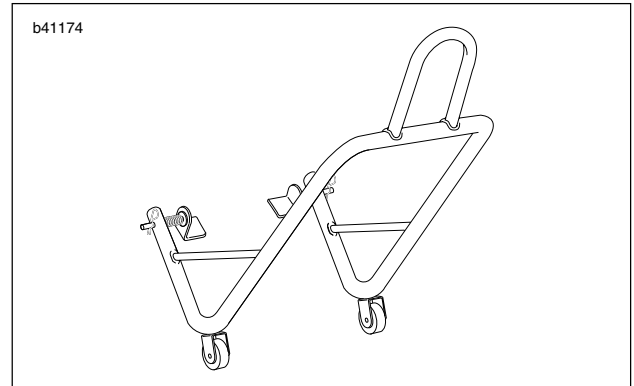

Figure 1-33. Rear Wheel Support Stand (Part No. B-41174)
2. See Figure 1-33. Raise rear wheel off ground with REAR WHEEL SUPPORT STAND (Part No. B-41174).